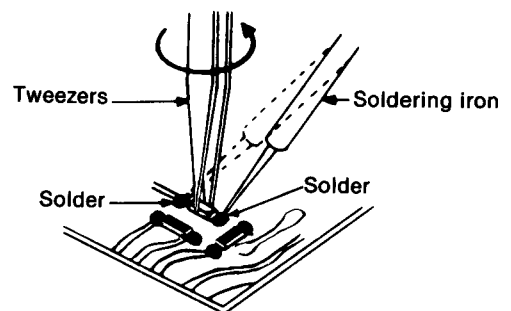

Fig. 1
2. Touch the soldering iron to the end of the chip as shown in Fig. 1, then turn the tweezers in the direction of the arrow.